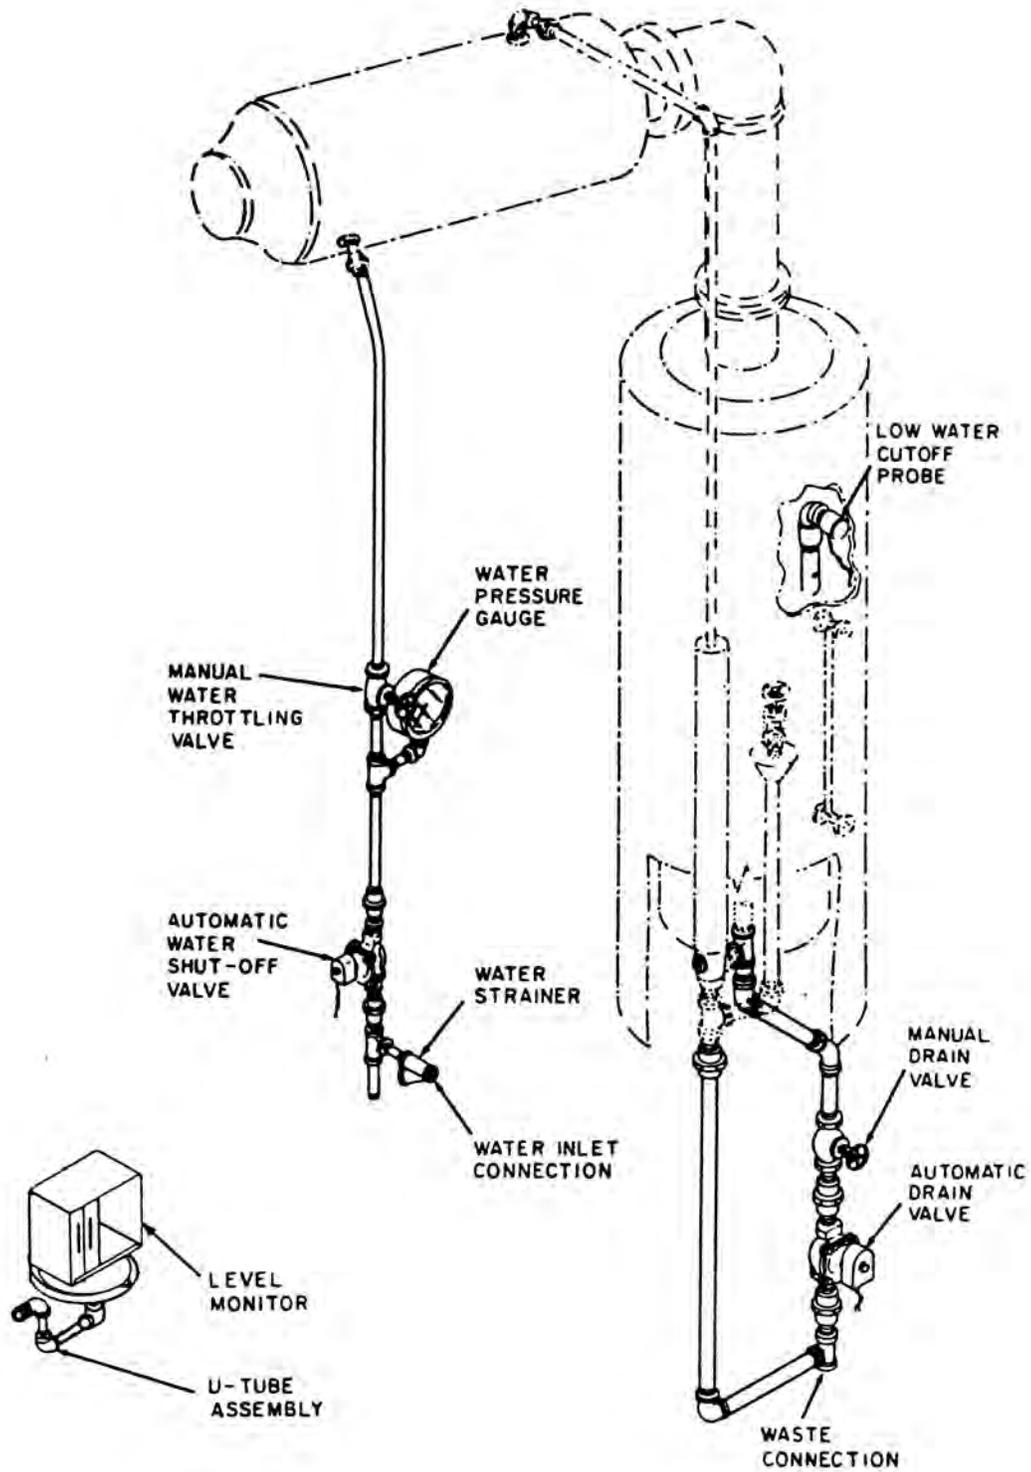

Figure 1: Automatic Controls
This publication comprises installation, operation, theory of operation, maintenance, and parts lists with appropriate illustrations for Barnstead Automatic Start, Stop, and Drain Controls for Barnstead Electrically Heated Stills. The automatic controls start the still when the stored distilled water drops to a predetermined level, shut off the still when the stored distilled water returns to the full level, drain the still periodically, shut off the current to the heating elements when the water in the still drops to an unsafe operating level, and turn on the current to the heating elements when the water returns to a safe operating level. The controls are designed to be used with 1, 2, 5, and 10 gallon-per-hour stills (Electrically Heated Stills Catalog No. A1011, A1013, A1015 and A1016, respectively). The automatic controls (see Figure 1) consist of: an automatic water shut-off valve, an automatic drain valve, a level monitor, a probe assembly for installation in the still evaporator and associated piping and wiring.
This solenoid valve is located in the water inlet piping as shown in Figure 1 and is wired to the low water cutoff control cabinet. The valve automatically controls the water supply to the still in response to the level monitor and the interval drain timer.
This solenoid valve is located in the drain piping as shown in Figure 1 and is wired to the low water cutoff control cabinet. The valve automatically drains the still in response to the interval drain timer.
- B. Connect the water inlet piping and the drain piping to the service lines. The location of these connections is shown in Figure 1, and the sizes of the connections are listed in the following Table: